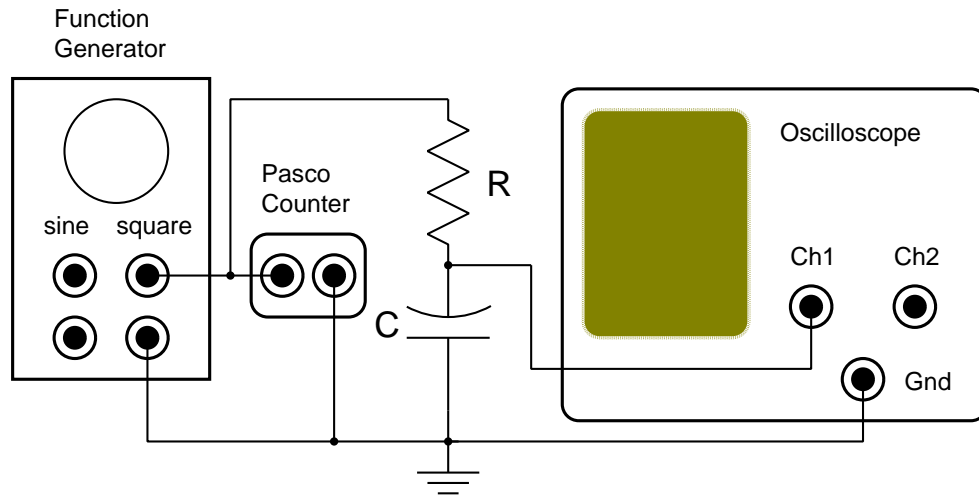

Figure 4: Setup for measurement of fast RC time constant
In this part, we measure the short time constant of another RC circuit by continuously charging and discharging the capacitor. We accomplish this by connecting the RC combination to a power supply producing a square wave voltage pattern as shown in Figure 4. During the period when the applied voltage is V , the capacitor is charging, whereas during the period when the applied voltage is zero, the capacitor is discharging.
2. Connect the RC circuit as shown in Figure 4. Pay attention to the side that should be connected to the ground end of the function generator/oscilloscope.